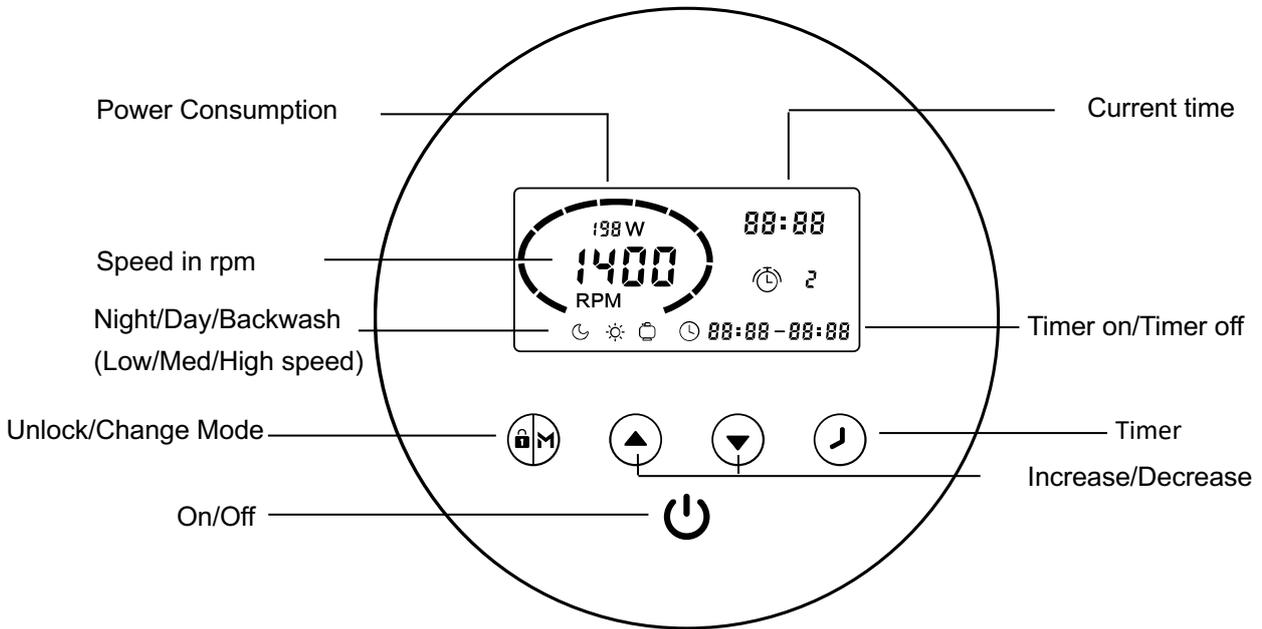

**Fig. 3**
4.2 Plug the pool pump into the device's "Power socket" see fig 3 below (PUMP CONNECTION ONLY).